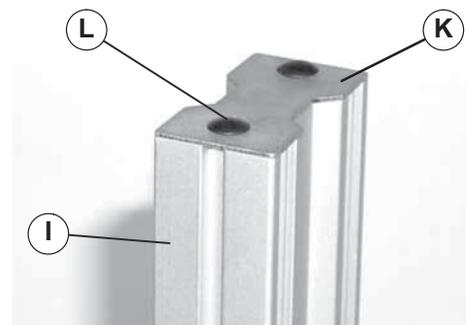

Figure 11
2. Attach tube end cover (Figure 11, item K) on stand leg (I) with two plastic tree rivets (L).